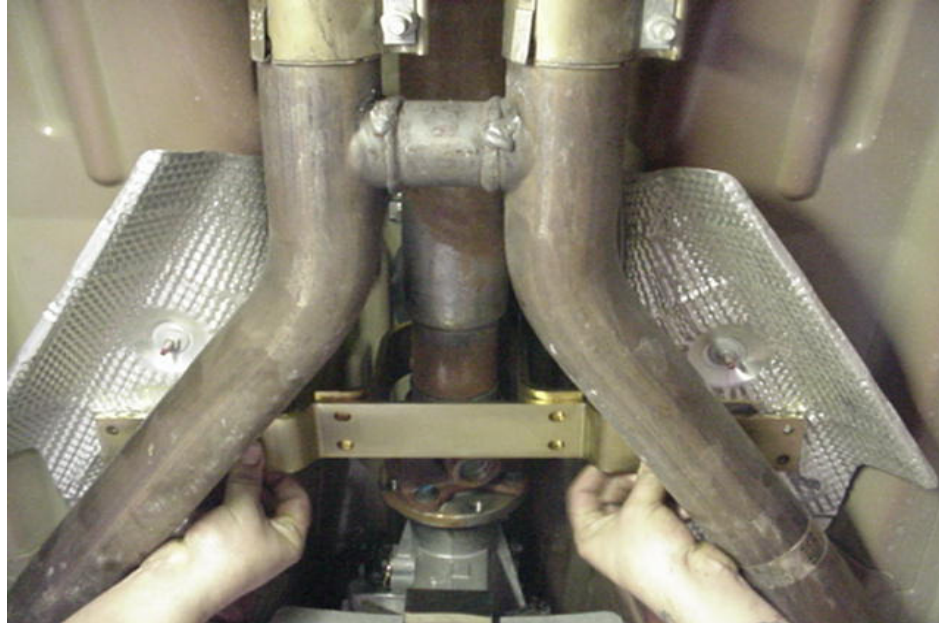

Fig. 1
- (1) Instruction sheet
- STEP 3:** Loosen clamps (2) located between H pipe and tailpipe.
- STEP 6:** Position front drive shaft loop mounting plate, (shown in Fig. 1) and mark the mounting holes.